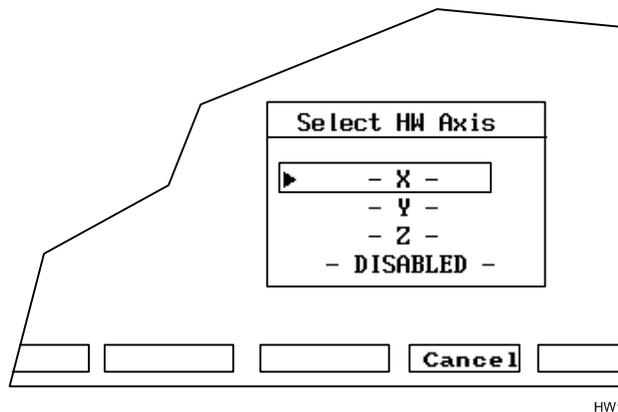

Figure 3-5, Handwheel Axis Selection Pop-Up
1. From the Manual screen, press the **HANDWHL (F8)** soft key. The soft key highlights and the other soft keys are blank. The **Select HW Axis** popup menu activates. Refer to **Figure 3-5**.